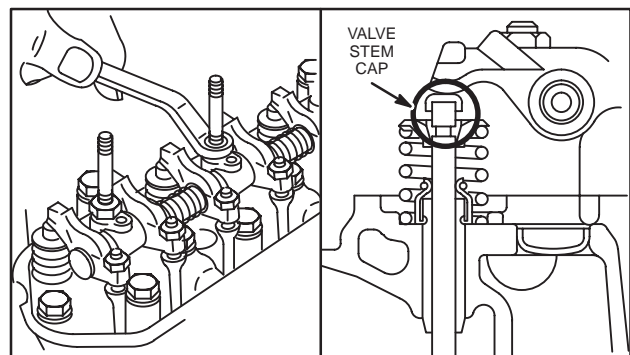

Fig. 7 – Remove Rocker Arm Assembly And Push Rods
5. Remove rocker arm assembly and push rods, Fig. 7.